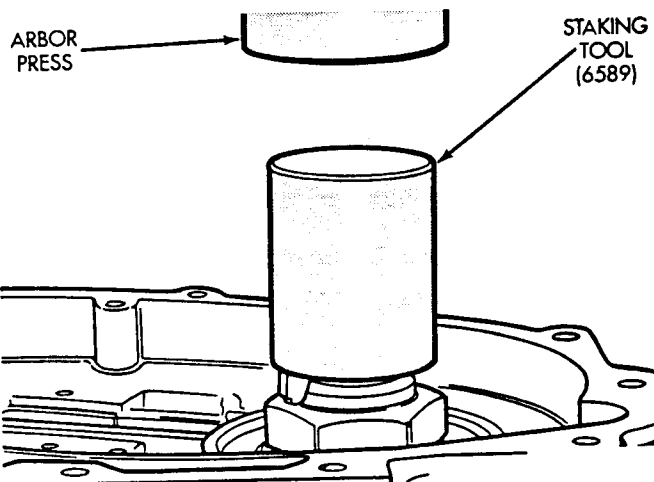

Fig. 36 Staking New Nuts
(41) After the correct turning torque is obtained, use special tool 6589 to stake the new transfer shaft nut (Fig. 36). Be sure that the tool arms line up with slots in the transfer shaft. Use a press with the special tool to make the stakes in the nut.